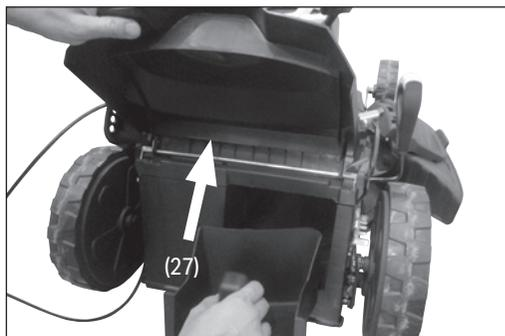

Fig.18
- Empty the collection bag (10) as soon as it stops picking up the cut grass and starts leaving debris on the ground. **ALWAYS** turn off the engine and check the blade has stopped before removing the bag.
7.5 Mulching Plug and Side Discharge Deflector (Fig.18 – Fig.20)
To fit the Mulching Plug (Fig 18)